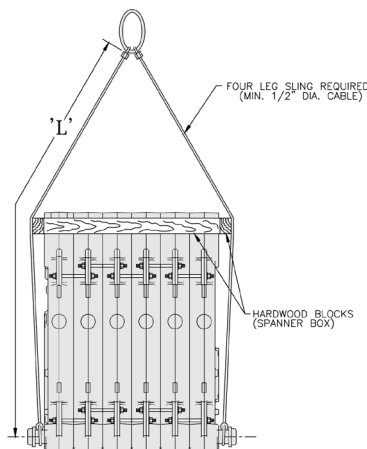

Figure 4: Lifting Instruction
**A. FACTORY ASSEMBLED SECTIONS** — If the boiler was ordered with factory assembled sections, the assembly should be set in the proper location as outlined in Section I. Lifting arrangement and weights are given in Figure 4.